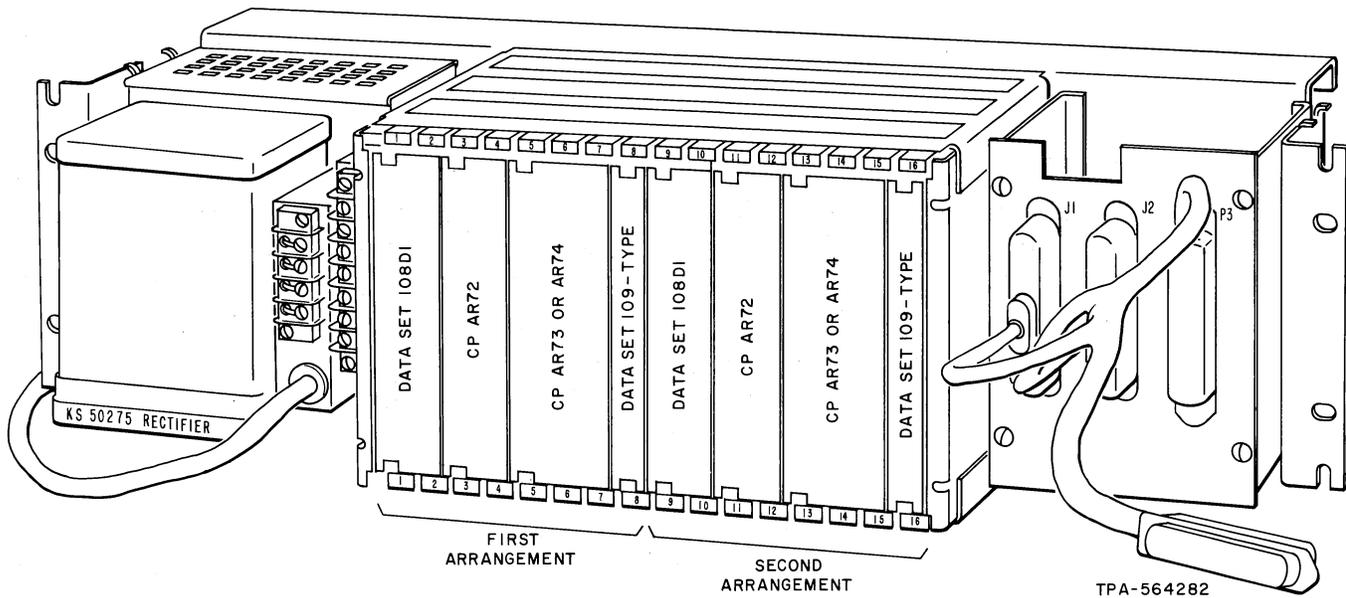

Fig. 9—Interconnection Arrangement Layout
4.04 Verify that the proper options are installed in the data sets and circuit packs as required in Part 3 of this section. Verify that the TEST switch on circuit park AR72 is in the NORMAL (pressed down) position. Adjust the line pad of Data Set 109D or 109E as directed in Preoperative Adjustments (Part 6). Install the line-side data set (Data Set 108D-L1), the concentrator-side data set (Data Set 109D-L1 or 109E-type), and circuit packs AR72 and AR73 or AR74 in the 28A1 Data Mounting slots as shown in Fig. 9.
Note: The interconnection arrangement will function *only* as shown in Fig. 9. Do not insert the data sets and circuit packs in any other order. For installations requiring only one arrangement, fill the left slots of the 28A1 Data Mounting. Interconnections will be made through connectors J1 and P3 and the 209A